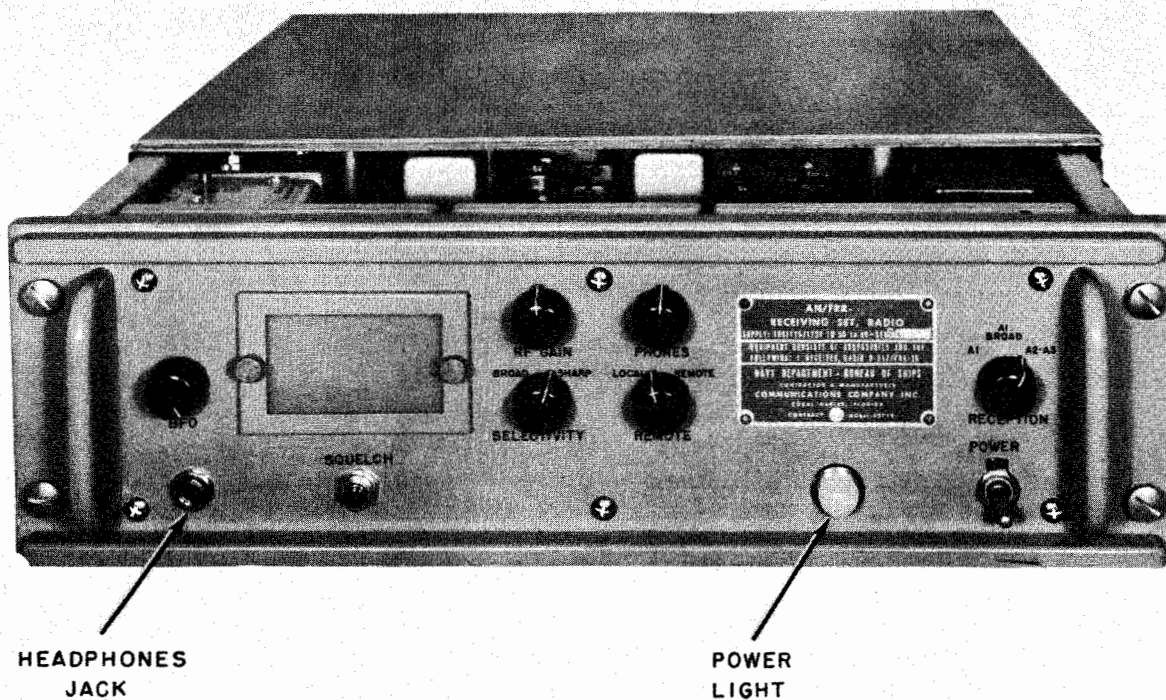

Figure 1-2. Photo—AN/FRR-30 Radio Receiver, Front Top View, Unit Slid out of Case
c. PANEL-FRAME ASSEMBLY.—Figures 1-2, 1-5 and 1-6 show this assembly. The panel mounts two handles, which are used to pull the panel-frame assembly from the case and for carrying purposes. Across the top and bottom of the panel are provided blister bars to minimize accidental movement of the panel controls. The panel also has two controls with clutches which must be disengaged prior to removing either the IF or the Audio/Power Supply chassis. The panel and case are finished with gray enamel. The panel mounts a card holder for the frequency chart card and also the identification plate. Four Simmons fasteners, one on each corner of the front panel, lock the panel-frame in place when it is inside the cabinet. Behind the front panel, mounted on a shelf, are three receptacle connectors which engage the plug-in chassis connectors. Twelve threaded standoffs are attached to the frame shelves for use in fastening the plug-in chassis by means of captive screws in the chassis units. A hole in the rear of the frame assembly permits the J504 receptacle of the cabinet assembly to engage the mating connector of the Audio/Power Supply chassis. A smaller hole in the back of the frame assembly allows the slotted shaft of the frequency band switch to be accessible for selection.